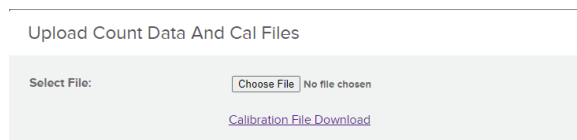

Figure 21: Upload Count Data And Cal Files
1. In the **DSP Control Center**, hover over the **Data Collection** button and select **Upload Counts/Cal Files**. The Upload Count Data and Cal Files window opens (see Figure 21).